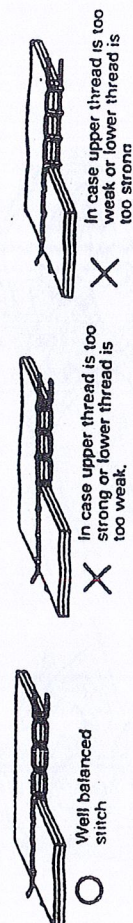

Fig.11
15、Adjustment of the thread tension (Fig.11):